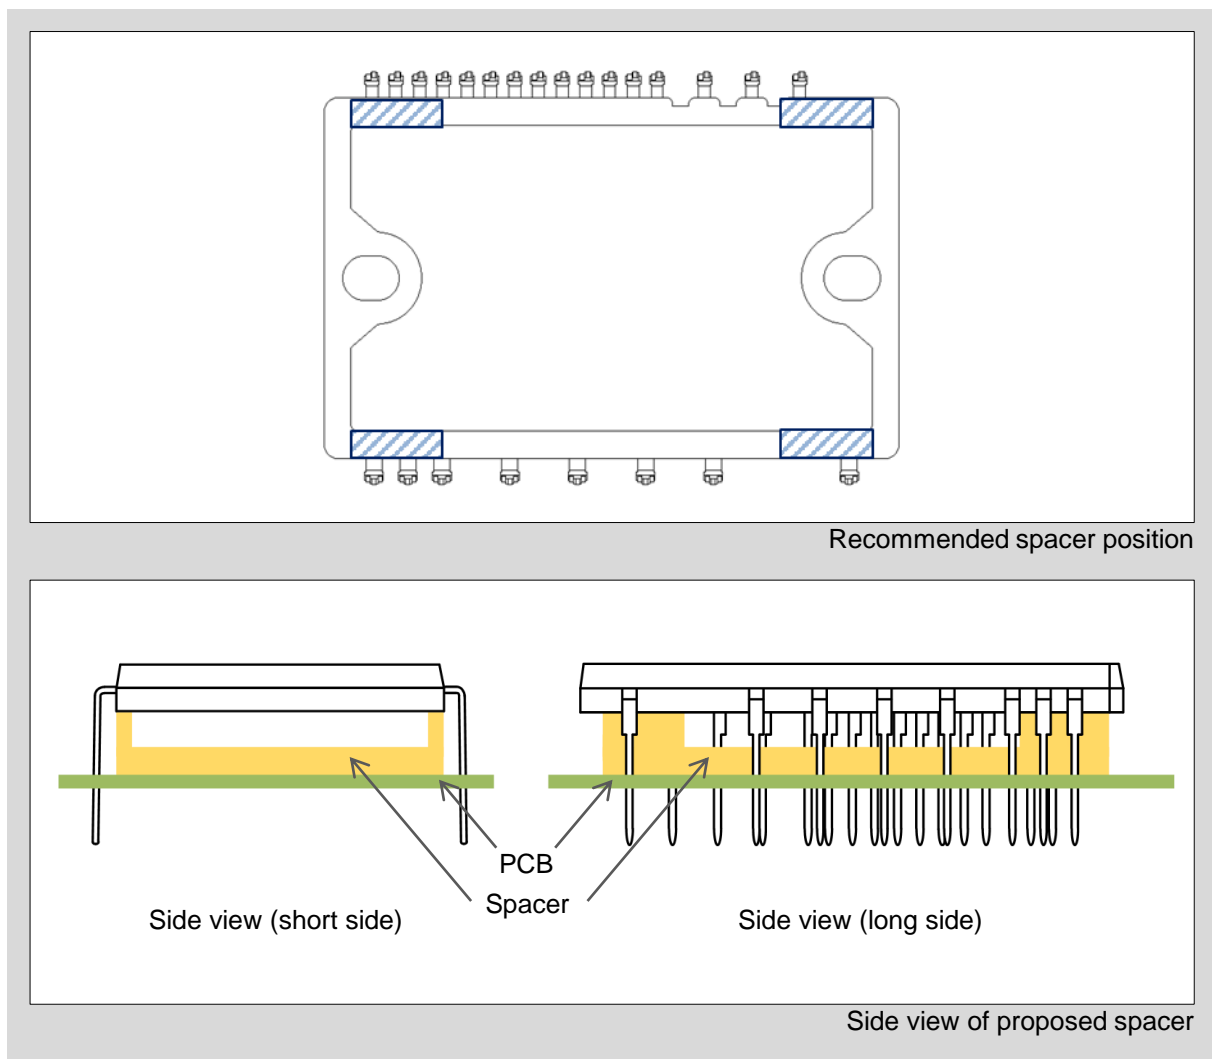

Fig. 4-1 Spacer position
- When using spacer between the PCB and the product for alignment during soldering to printed circuit board, it is recommended to support the product at the hatched area as shown in Fig. 4-1.